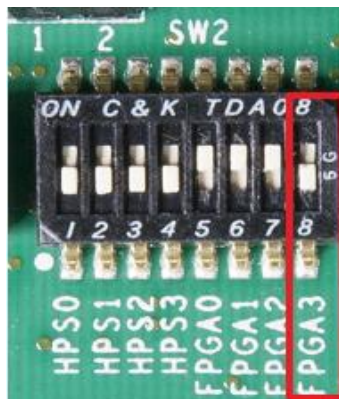
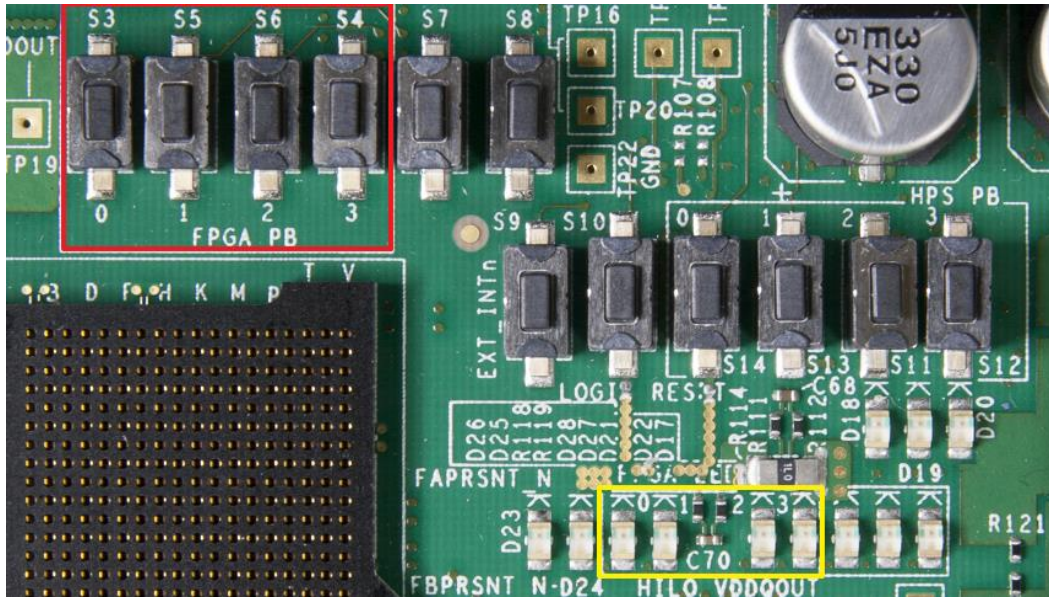

Figure 4-6 USER_DIPSW_FPGA3 location on A10SoC board
Figure 4-7 USER_PB_FPGA/USER_LED_FPGA locations on A10SoC board
- **Figure 4-6** and **Figure 4-7** Show the locations of buttons/switches/LEDs on A10SoC board: